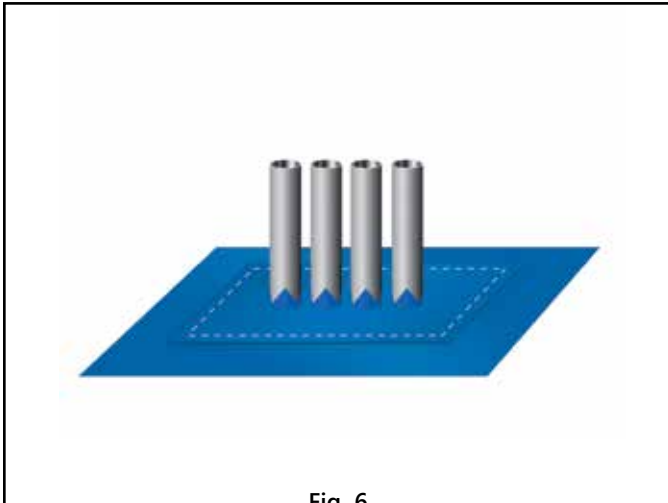

Fig. 6
- C) Force the patch material over penetration to achieve a tight fit and form a lip (Fig. 6).